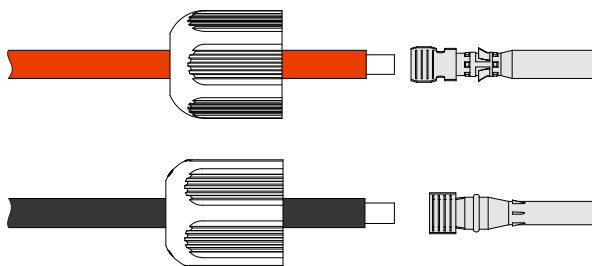

Figure3-27 Crimp the metal terminal
Step 2 Unscrew the lock nut of positive and negative connection, lead the positive and negative wires go through corresponding lock nut, and then insert the positive wire and negative wire into the positive metal terminal and negative metal terminal respectively. Crimp the metal terminals firmly by crimping pliers, as shown in Figure3-27.